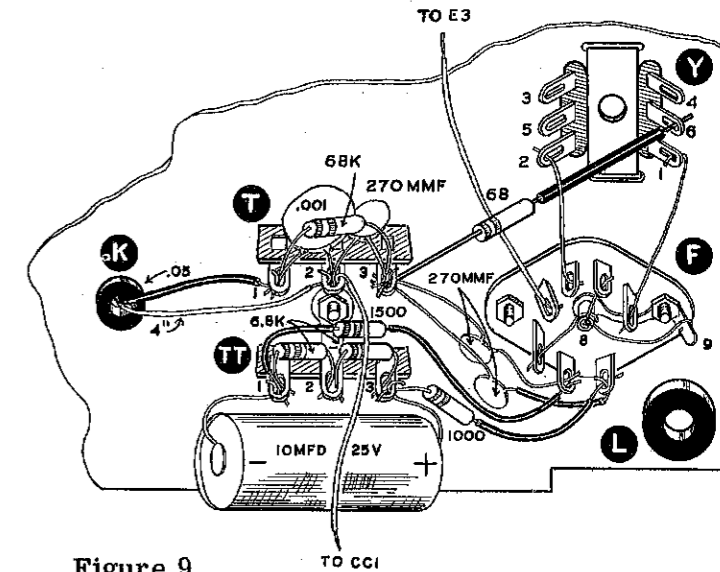

Figure 9
- (✓) Connect a 270 μ f disc condenser from socket F2 (NS) to terminal strip T3 (NS). Dress close to chassis. See Figure 9.
- (✓) Connect a 270 μ f disc condenser from socket F1 (NS) (use sleeving) to terminal strip T3 (NS). Dress close to chassis.
- (✓) Run a 1500 Ω resistor (brown-green-red) from socket F2 (S) (2) (use sleeving) to terminal strip TT1 (NS) (use sleeving). Dress close to chassis between strip T and TT.
- (✓) Run a 1000 Ω resistor (brown-black-red) from socket F1 (S) (2) (use sleeving) to terminal strip TT3 (NS).
- (✓) Connect a 6.8 K Ω resistor (blue-gray-red) from terminal strip TT2 (NS) to TT3 (NS). Dress between T and TT as shown in Figure 9 and Pictorial 1.